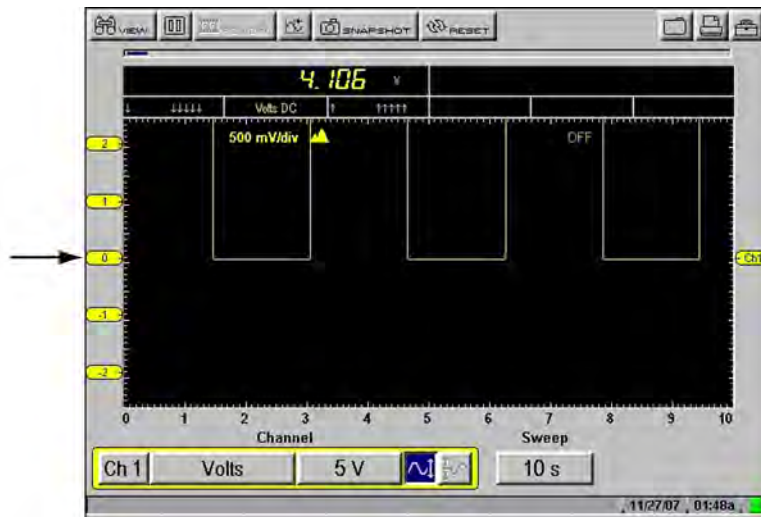

Figure 5-8 Sample zero position
2. Press the up ▲ or down ▼ arrows as needed to move the zero point (Figure 5-8).